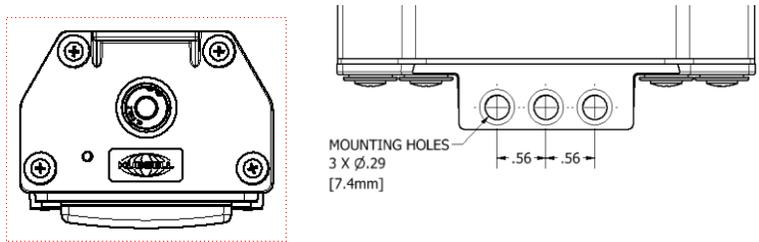

Figure 3
- A. The WLALFP end caps have provisions for surface or suspension mounting. (See **Figure 3**)